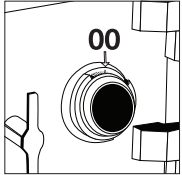

Figure 1
1. Starting with the combination dial positioned on 00 at the center index mark (Figure 1).